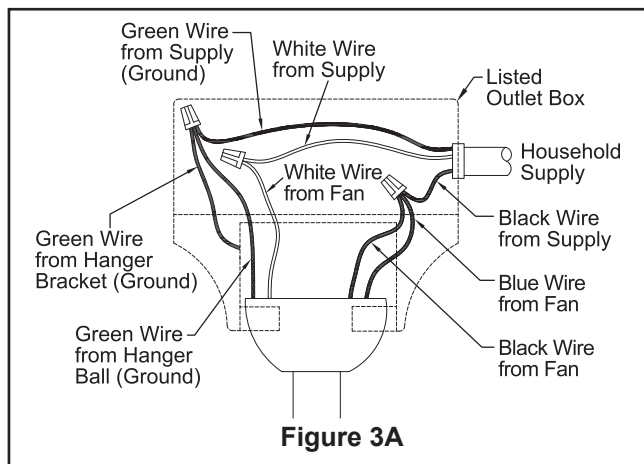

Figure 3A
2. After connections have been made, taking care not to pinch the wires and put the white and green leads to one side and the black leads towards the other side, the connection should be turned upward and carefully push leads into the outlet box. The wires should be spread apart with the grounded conductor and the equipment-grounding conductor on one side of the outlet box and the ungrounded conductor on the other side. (Figure 3A)
- ☐ **3A—FP6284**.** Securely attach the 9-pin connector from the motor assembly to the wire harness socket within the switch cup assembly. (Figure 3A)